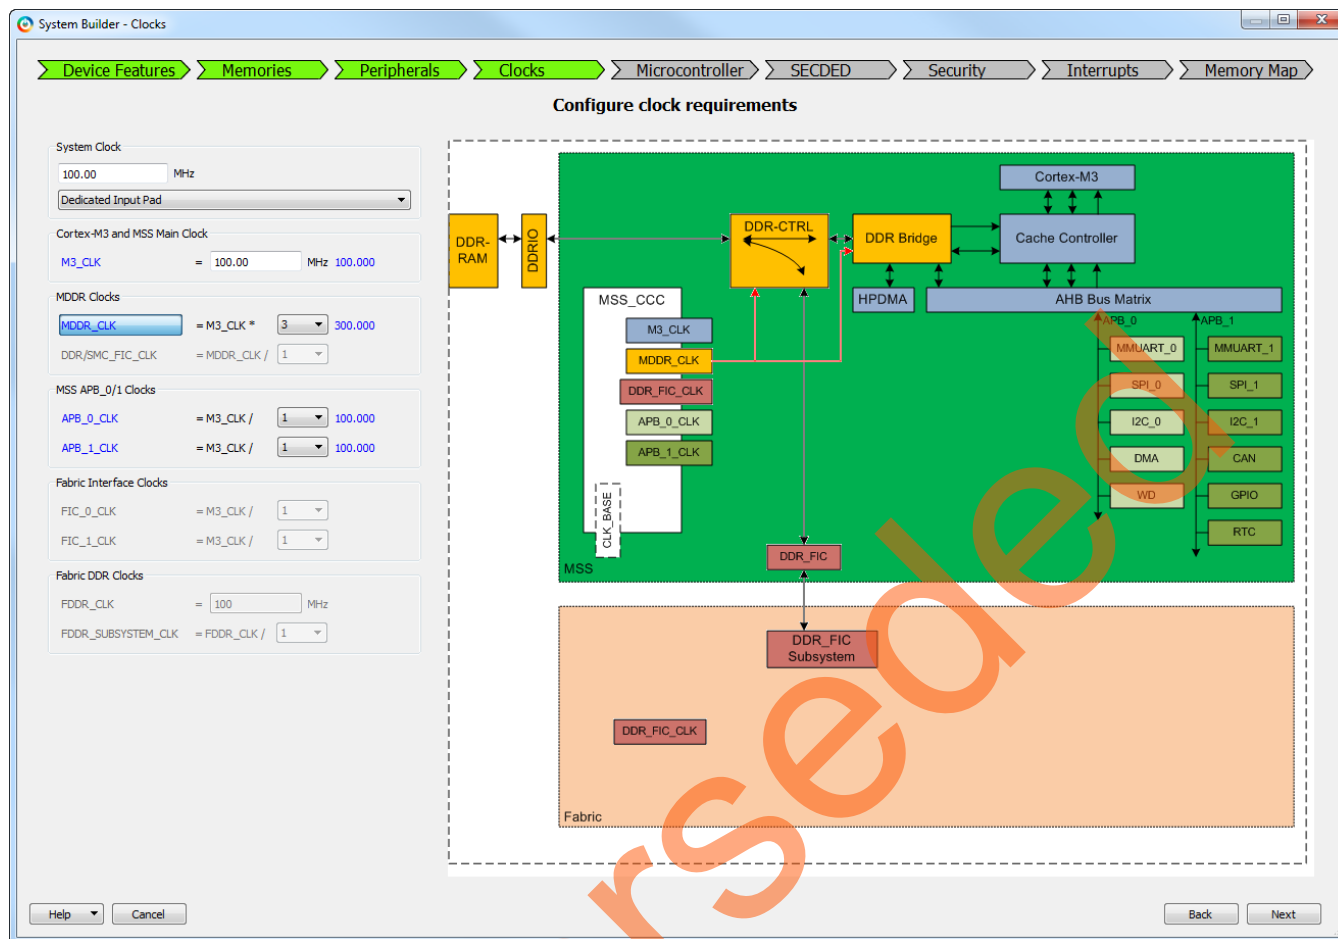

Figure 7. System Builder Configurator – Clock Settings Page
10. Select **Next**, System Builder- **Clock Settings** page is displayed, as shown in Figure 7. Select the following options:
Note: You can see the clock and the different blocks it drives by clicking the clock name shown in Blue color. For example, click the MDDR_CLK shown in Figure 7 and the clock and the blocks that the clock is driving are displayed on the right-side panel.
Since you indicated that the System Clock is equal to 100 MHz, as shown in Figure 7, the clock generator period is set to 10000 ps to generate this 100 MHz clock.